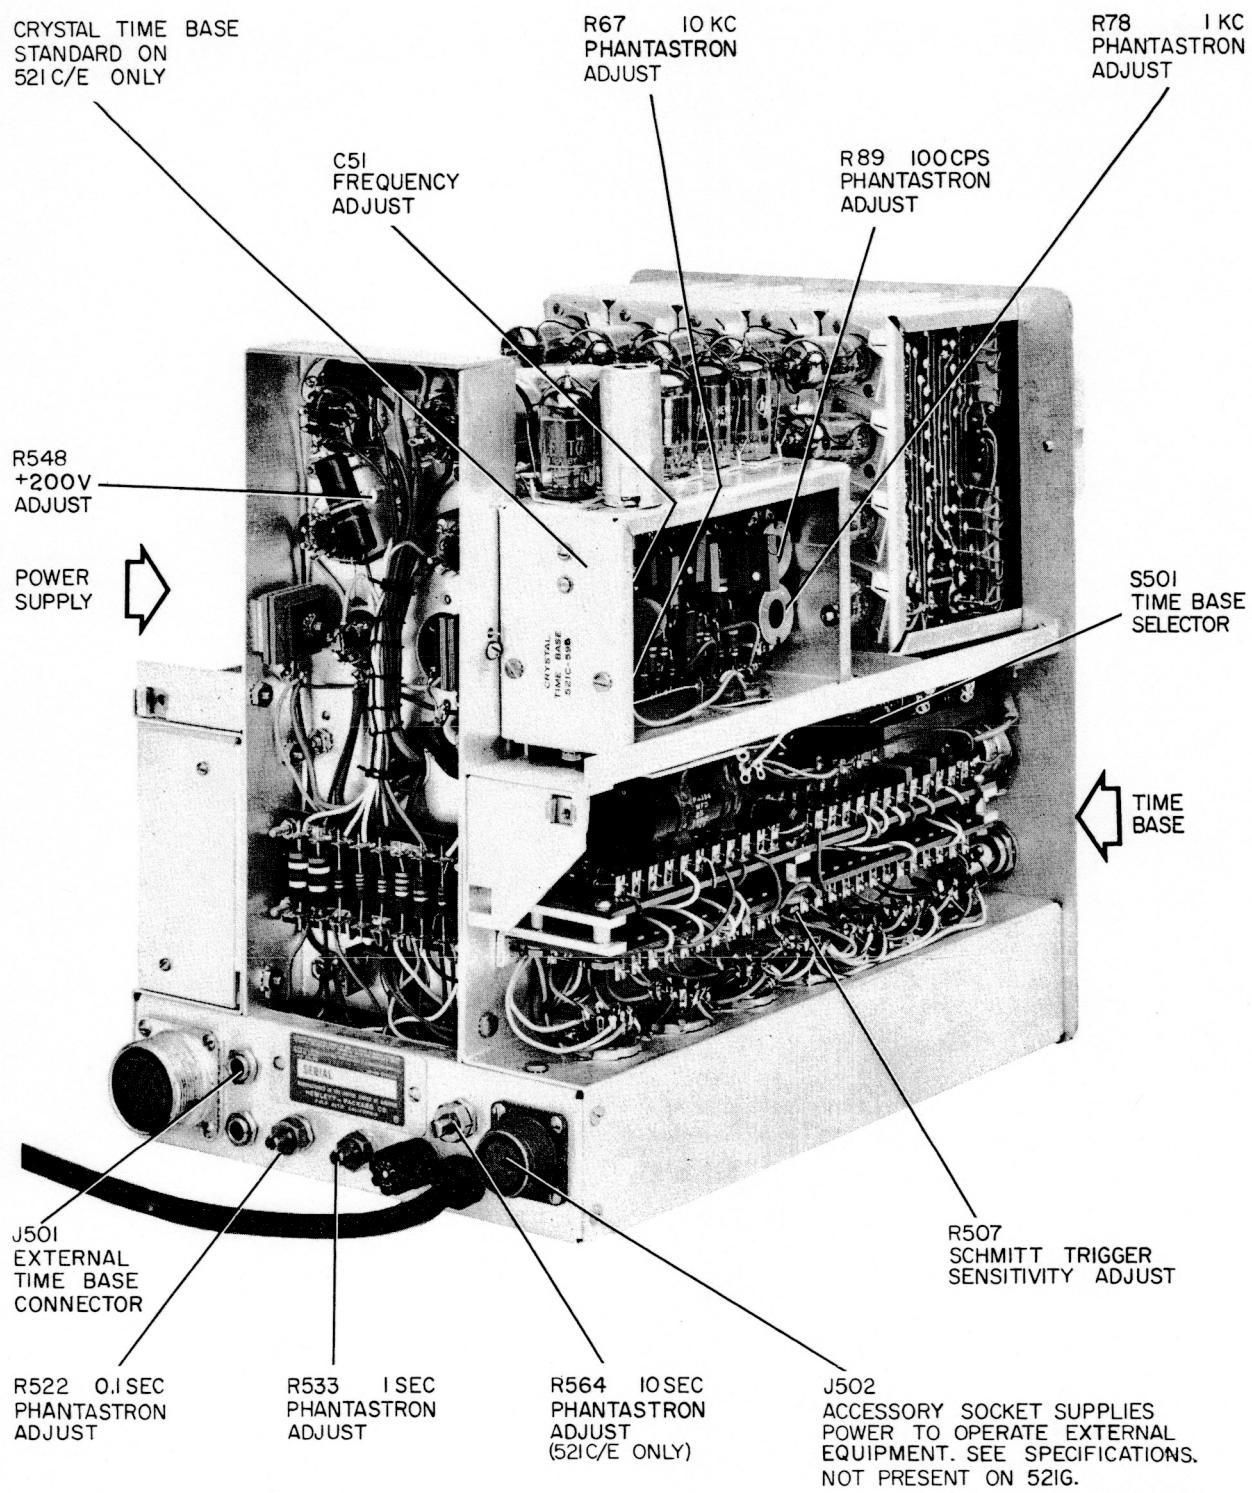

Figure 4-5. Right Rear Internal View of 521E
- 4) Adjust C51, Freq. Adj., (Figure 4-5) to give readout of 0000 ± 1 (521A/D) or 00000 ± 1 (521C/E/G).
- 4) Adjust C51, Frequency Adjust (see Figure 4-5) for lowest beat note. WWV broadcasts audio tones three minutes out of every five; adjust C51 during two-minute intervals between audio tones when only the carrier is present. If you use the 10-mc transmission from WWV, oscillator frequency is within 0.01% of 100 kc when beat note is less than 1 kc.